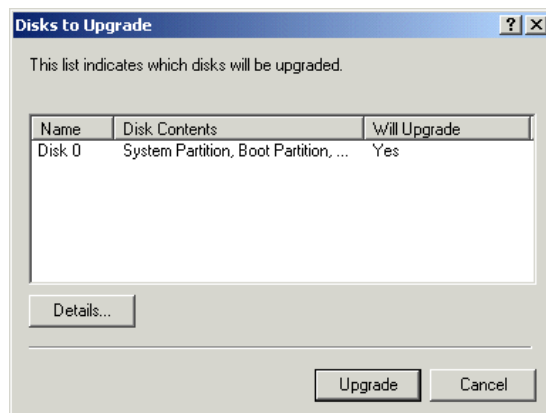

Figure 3-4 Upgrading the disk
4. You will get a response showing the disks about to be upgraded (Figure 3-4). Click **Upgrade**.